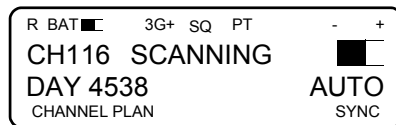

Figure 3-35. 3G+ Scanning Screen
The principal differences between the KDU screens displayed in 3G+ radio mode operation and the screens displayed in the other radio modes appear on the top-level screens. To enter 3G+ radio mode, the radio must be programmed with a communications plan that was developed from the RF-6550H HF Radio Programming Application, version 5.0 or higher. Once the radio is programmed, to enter 3G+ mode, press the **[MODE]** key on the KDU until 3G+ is displayed and then press **[ENT]**. The AN/PRC-150(C) will now enter 3G+ radio mode and the 3G+ scanning screen will be displayed. Figure 3-35 depicts the 3G+ scanning screen. The items displayed on this screen are as follows:
- The Squelch (SQ) and PT/CT indicators on the top line have the same significance as in other radio modes.